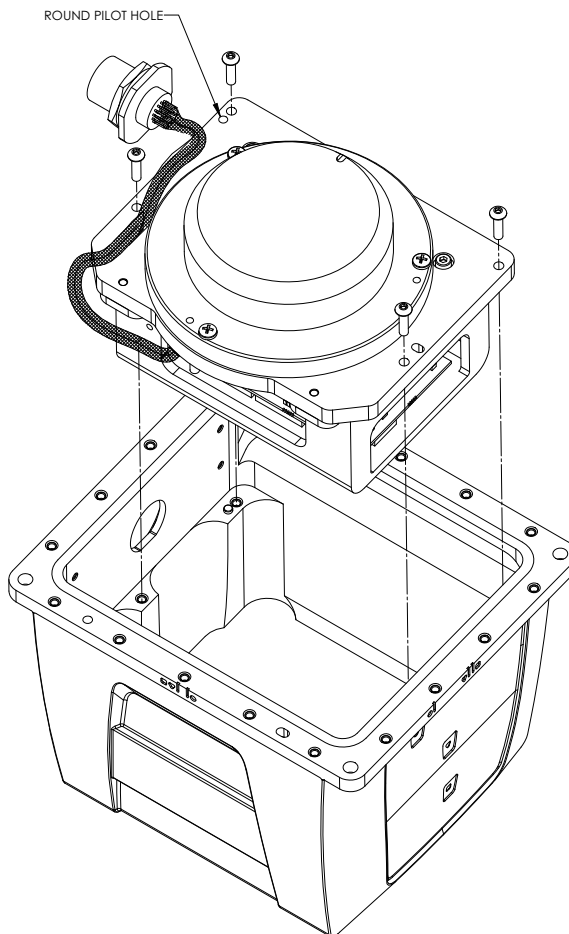

Figure 50: Assemble Into Enclosure Body
4. Starting with the round pilot hole, shown in *Figure 50*, align the pilot holes of the assembled plate (noting the orientation) with the pilot pins of the enclosure body. Lower the assembly into place, then fasten using thread-locking fluid on the M4 screws.